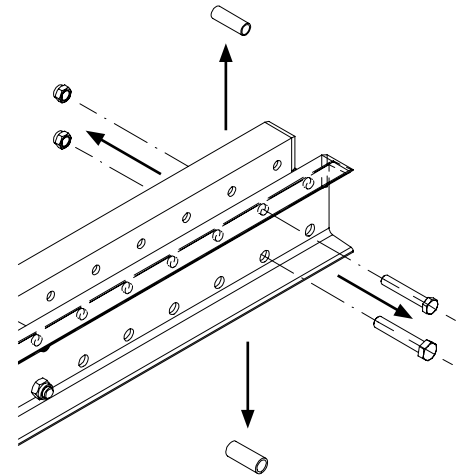

Fig. B2.01b
5. Remove external spacers. (Fig. B2.01b)
- After the bolts have been removed, six rows of holes must be free up to the next pair of bolts. (Fig. B2.01b)